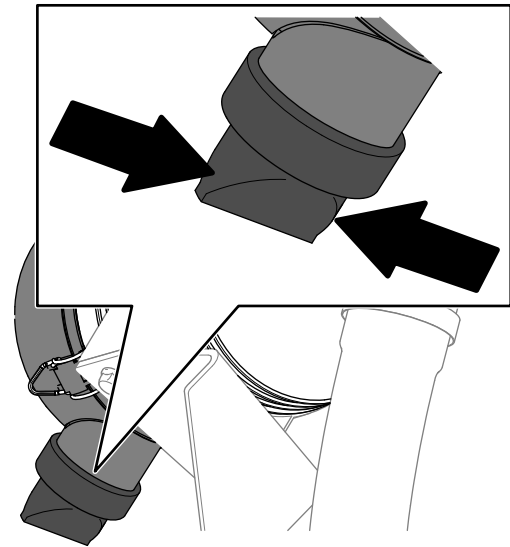

Figure 76
5. Squeeze the dust-ejector valve (Figure 76).